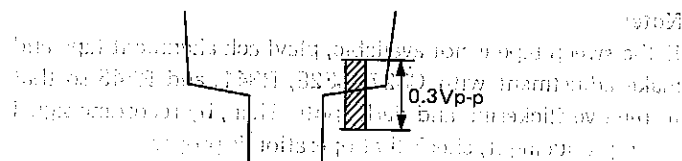

Figure 51.
- 2) Observe the output of Video output and adjust R506 so that the burst level will be 0.3Vp-p (See Figure 51).